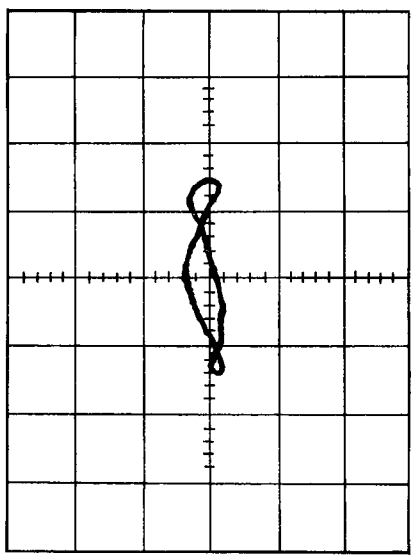

Figure 9. Residual Output of Analyzer, Rated Distortion at 20 Hz
8. Set the frequency controls of the generator and the analyzer to 20 Hz and repeat steps 4, 5, and 6. See Figure 9.